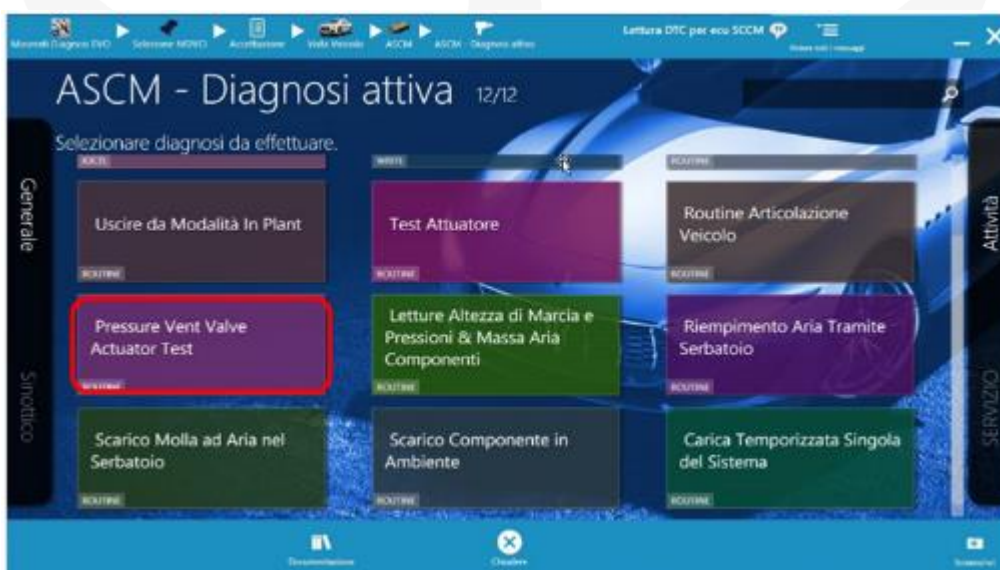

Figure 4: Active Diagnosis > Pressure Vent Valve Actuator Test.
- 6. Carry out the Active Diagnosis > Pressure Vent Valve Actuator Test of the ASCM module three times, as shown in Figure 4